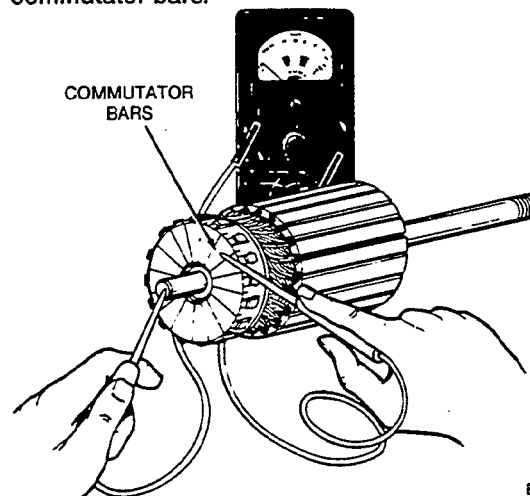

FIGURE 2. TESTING ARMATURE FOR GROUNDS
**Testing Armature for Grounds:** Touch armature shaft or core and the end of each commutator bar with a pair of ohmmeter leads (Figure 2). If the ohmmeter reading is low, it indicates a grounded armature. Replace grounded armature.